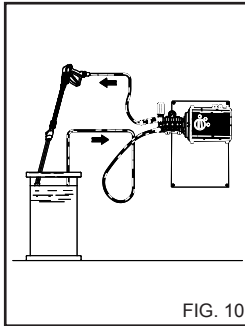

FIG. 10
**OPERAÇÕES PARA O USO DE ANTI-CONGELANTE (Fig. 10)**